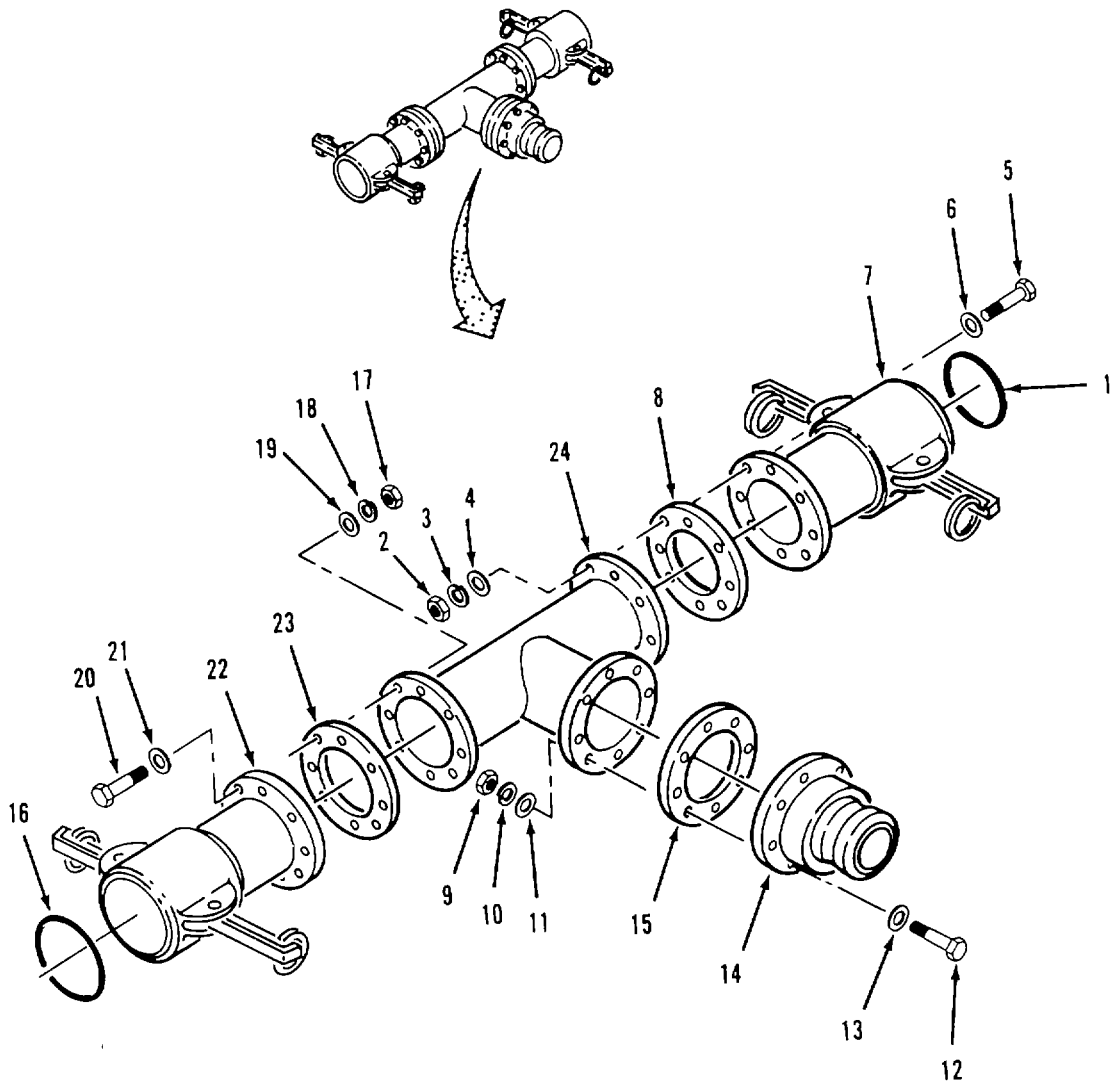

Figure 4-19. Tee Assembly (9112-Y1) Disassembly.
- a. Disassembly. Refer to figure 4-19.
- (1) Remove gasket (1) from female coupling (7).
- (2) Remove eight nuts (2), lockwashers (3), flat washers (4) and screws (5) and flat washers (6).
- (3) Separate female coupling (7) and gasket (8) from tee (24).
- (4) Remove eight nuts (9), lockwashers (10), flat washers (11), screws (12) and flat washers (13).
- (5) Separate male coupling (14) and gasket (15) from tee (24).
- (6) Remove gasket (16) from female coupling (22).
- (7) Remove eight nuts (17), lockwashers (18), flat washers (19) and screws (20) and flat washers (21).